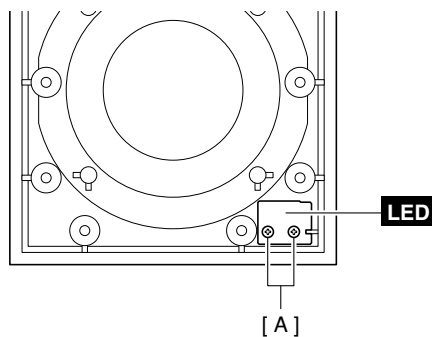

Fig. 10(図 10)
- 6-2 Remove the two (2) screws marked [H]. The LED circuit board can then be removed. (Fig. 10)
- 6-2 [H]のネジ2本を外し、LEDシートを外します。(図 10)